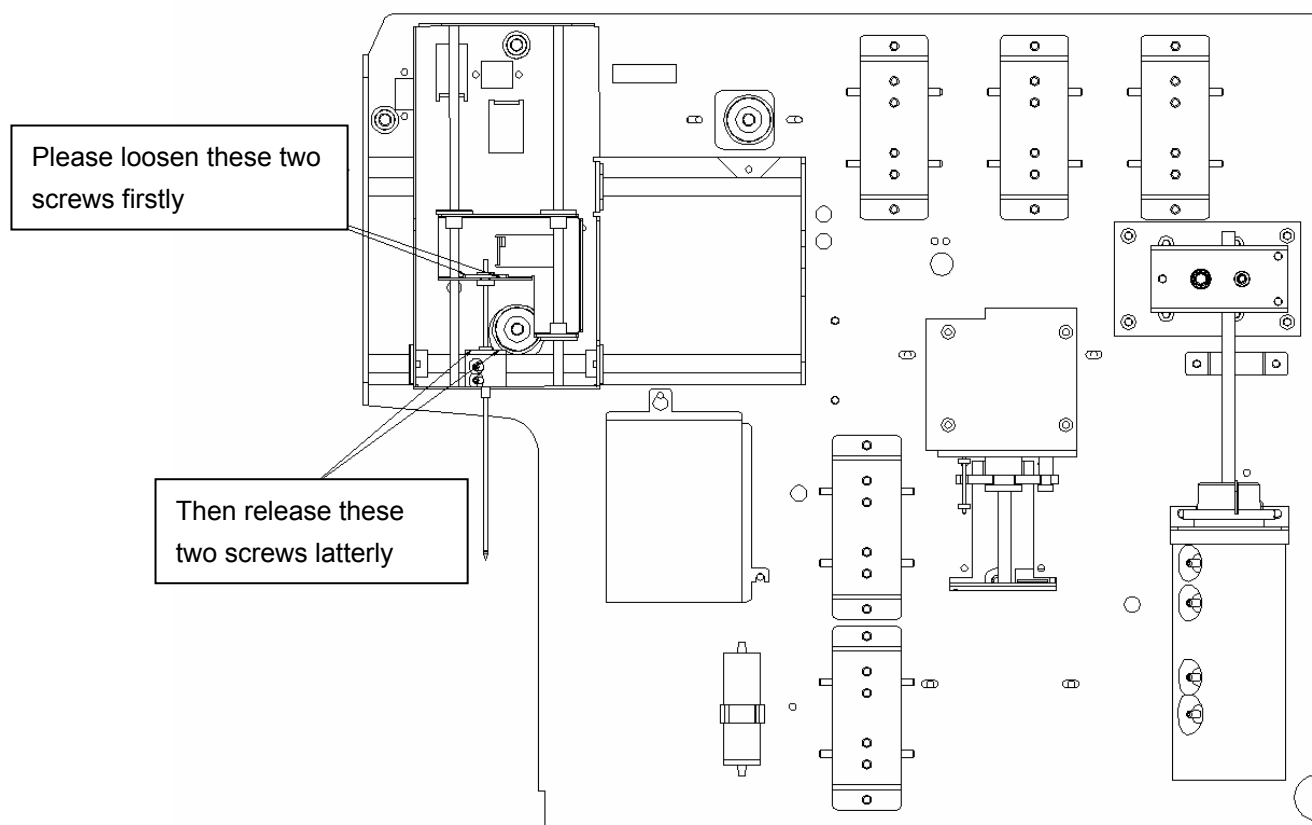
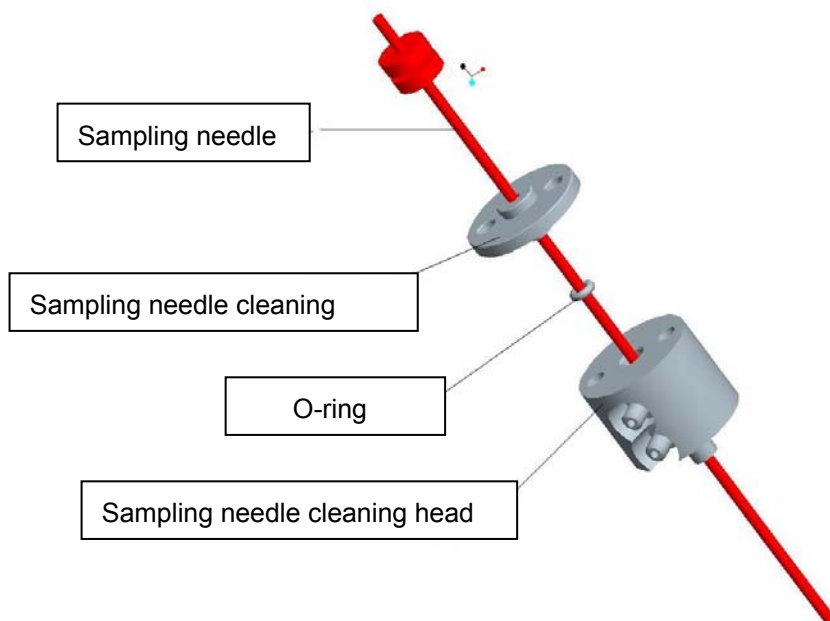

Figure 4-2-6
Figure 4-2-7
- 2) Remove the sampling needle and the sampling needle cleaning head components from the motion rack component, and then pull out the cleaning head cover and the sampling needle together from the sampling cleaning head, you can remove the worn O-ring from the sampling needle, and replace it with a new O-ring of the same specification, pay attention to coat the instrument specified lubrication sealed grease outside the O-ring, and reassemble it with the reverse order. As shown in Figure 4-2-7
The steps to replace the sampling needle is basically the same with the steps to replace the seal ring, firstly just as shown in Figure 4-2-6, loosen the four screws by the order of the figure, remove the sampling needle and the cleaning head components from the motion rack component; and then pull out the PVC pipe on the sampling needle; and finally as shown in Figure 4-2-7, remove the sampling needle from the cleaning head, and remove the sampling needle cleaning head cover and the seal ring from the sampling needle, at last replace a new sampling needle and reassemble it with the reverse order.